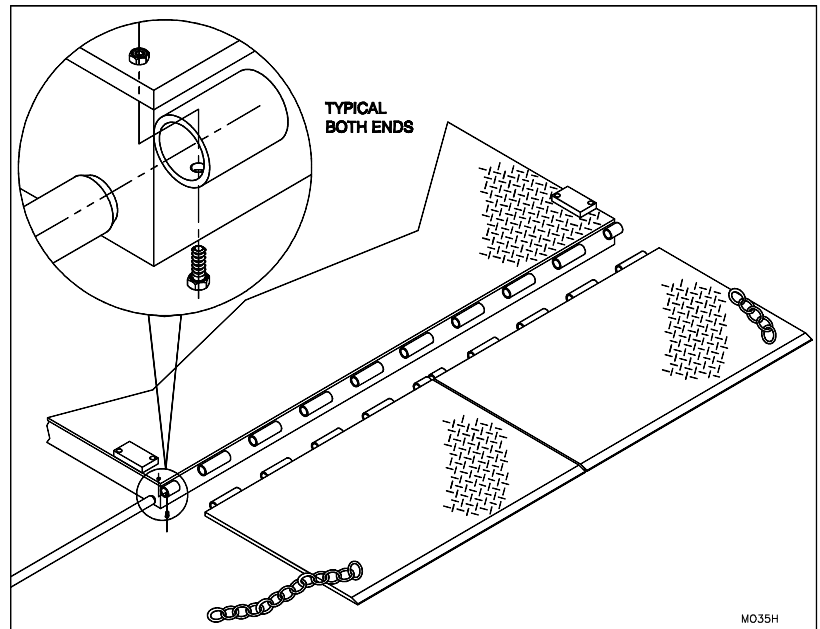

Figure 5: Installation of Hinged Bridge / Approach Ramp
15. If the Hinged Bridge or approach ramp plates were shipped loose, install them as shown in diagram "Figure 5: Installation of Hinged Bridge / Approach Ramp" on page 8. All required bolts and nuts are included with the unit. Ensure they are securely fastened in place.